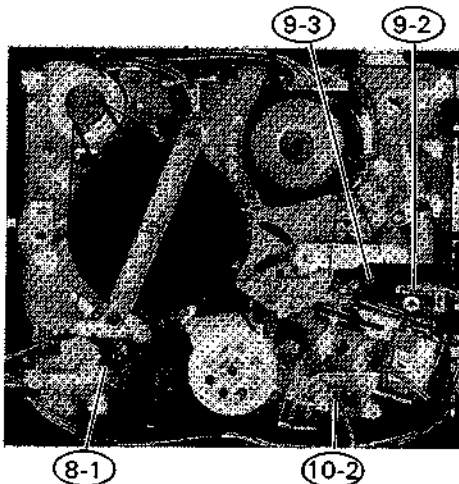

Fig. 12 Bottom View of Mechanism
- 1) Remove the top cover (see item 2 in the section on case removal).
8. Reel Sensor (Fig. 12)
- 1) Remove the bottom cover (see item 3 in the section on case removal).
9. Mechanism State Switch (Fig. 12)
10. Safety Tab Switch (Figs. 12 and 13)